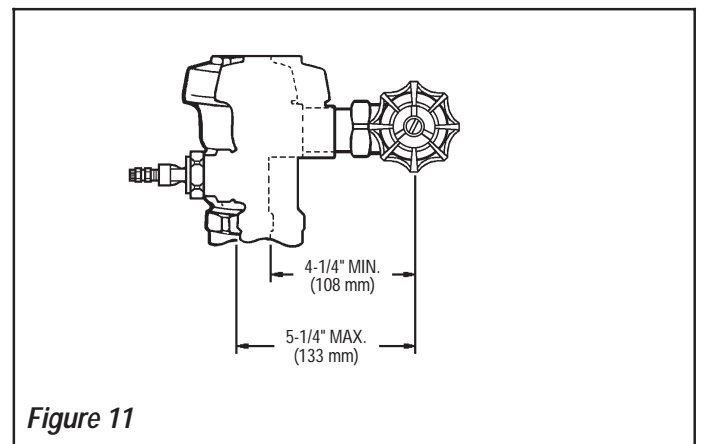

Figure 11
**SLOAN ADJUSTABLE TAILPIECE (Figure 11)**